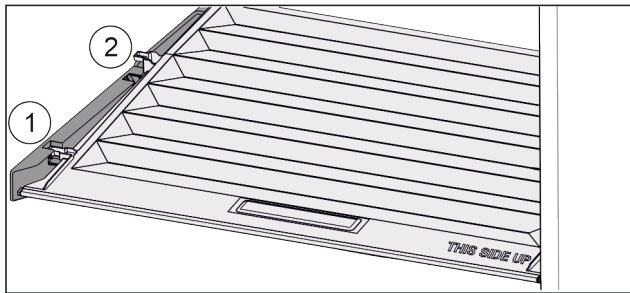

Fig. 42
- Pull the lid up at the front to the opening in the retaining parts Fig. 42 (1).
- Lift from the back and pull it up and out Fig. 42 (2).